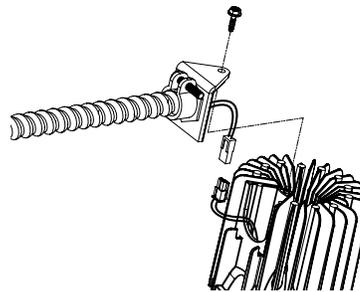

FIGURE 5
2. Fasten conduit adapter to trim housing using the screw provided (see Figure 5).